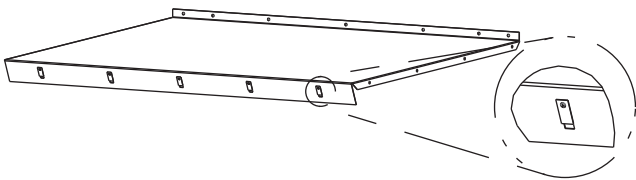

Fig. 29 — Top Hood with Speed Clips
4. Attach speed clips (provided) to hood top. Engagement section of the clip faces inside hood. See Fig. 29.